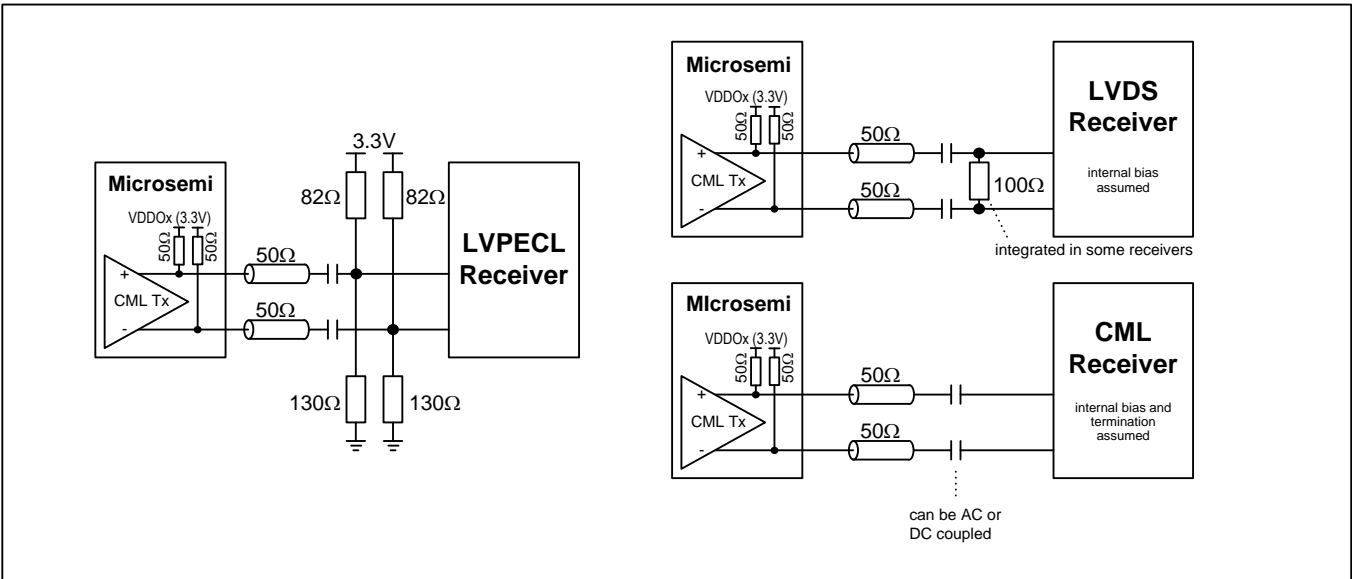

Figure 9 - Example External Components for CML Output Signals
**Note 1:** The differential CML outputs can easily be interfaced to LVDS, LVPECL, CML and other differential inputs on neighboring ICs using a few external passive components. See Figure 9 for details.